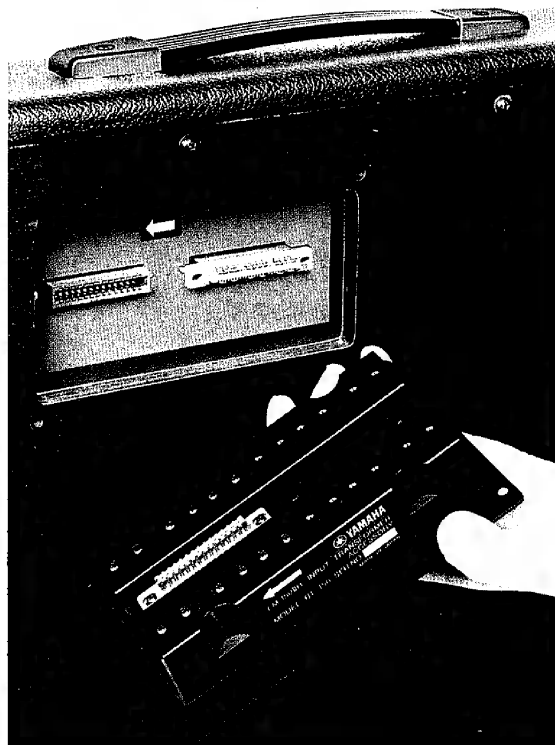

Figure 7
2. Remove only the left-hand jumper connector from it, socket in the transformer compartment. (Refer to Figure 7.)
4. As in the preceeding instructions, align the arrow on the BT-150 with the arrow in the transformer compartment, and insert the module firmly onto the connector socket. (Refer to Figure 7).